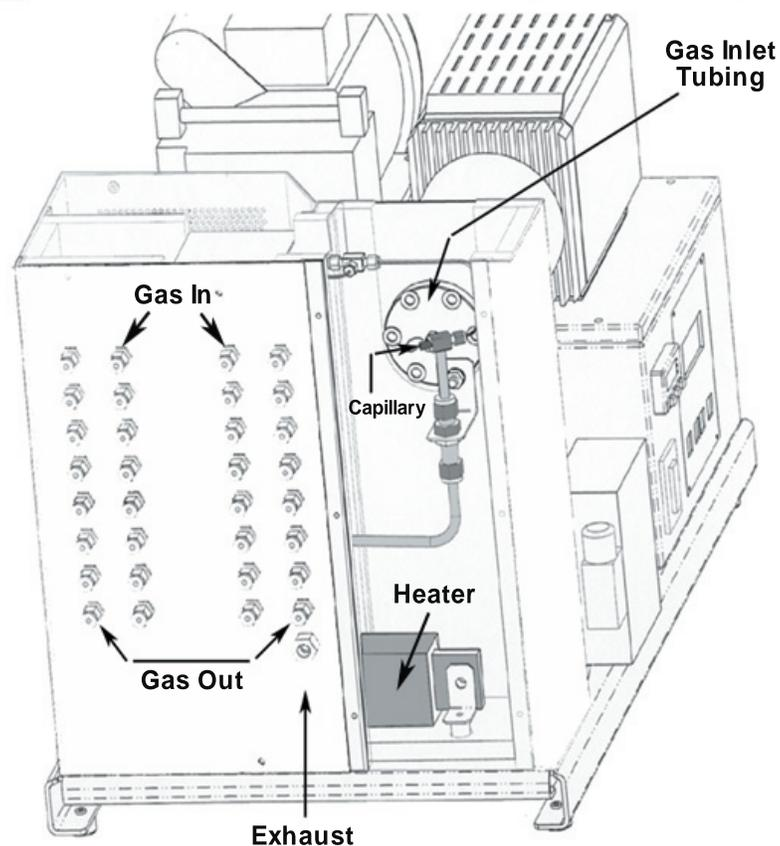

Figure 3-9.
3. The sample gas exhaust is the last of the Gas Out fittings on the right front of the sample inlet box (Figure 3-9). Use appropriate caution when venting the gas and vent at atmospheric pressure.